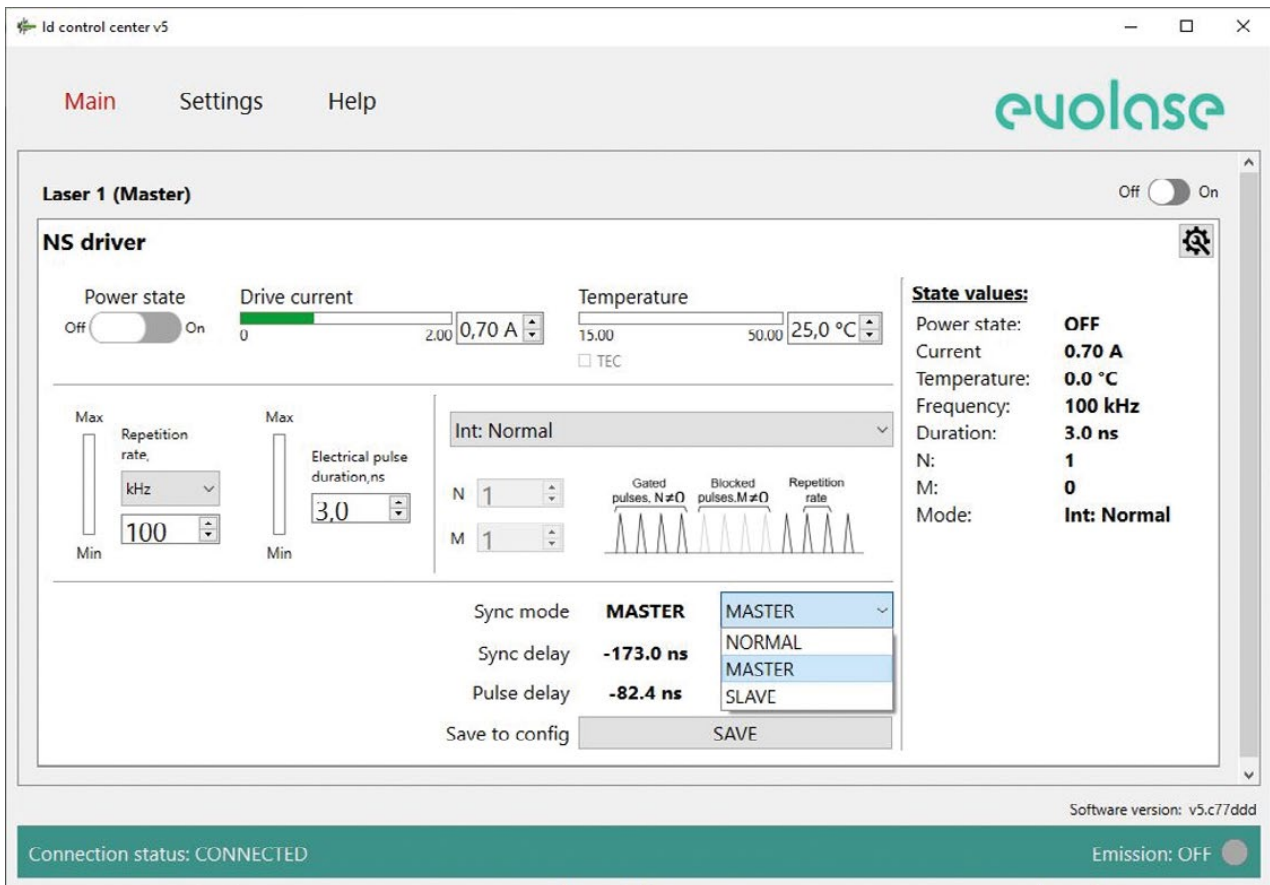

Figure 8: Sync mode master driver
8. In the control program of the master driver select Sync mode MASTER (fig.8), and confirm the selection in the confirmation window which appears. **Note.** First, the sync mode is set for the slave driver, and only then for the master driver.